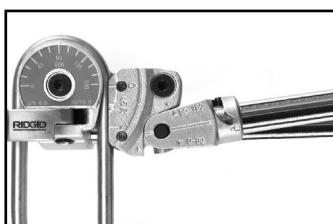

Figure 15
4. Swing the Carriage Handle around the Form until the "0" Line on the Carriage aligns with the desired bend angle (Figure 15). The Handles will not cross.